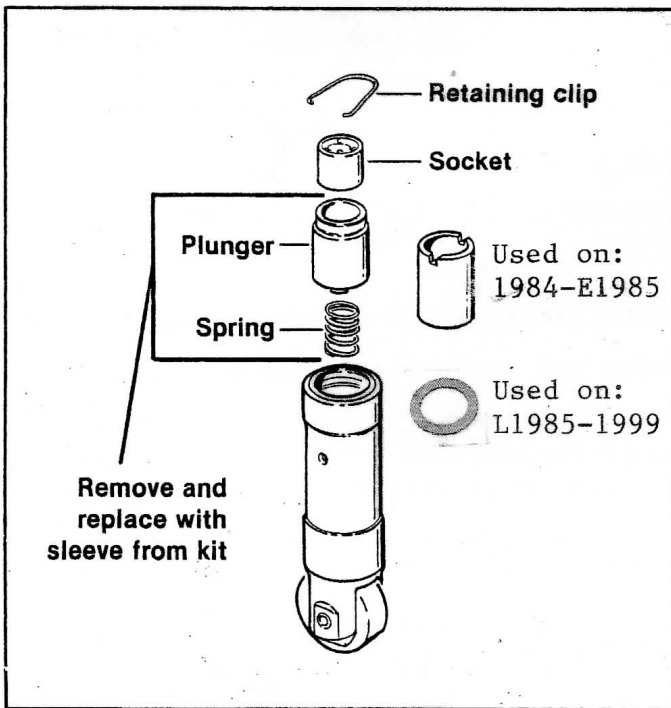

Figure 1
3. See Figure 1. Press down on socket in tappet and remove retaining clip.
5. See Figure 1. Insert sleeve from kit into tappet. 1984-early 1985 use longer cylinder, slotted end up (toward pushrod). Late 1985-1999 use the smaller spacer only, either end up. Place socket into tappet and replace retaining clip.